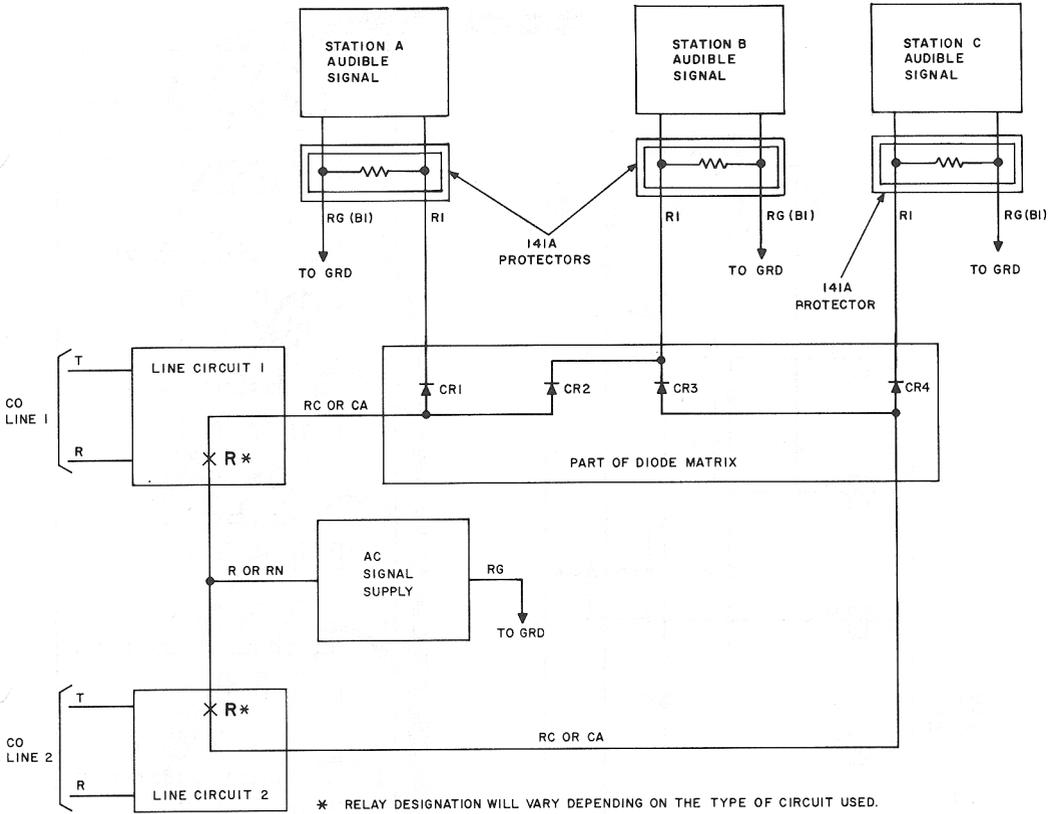

Fig. 3—Simplified Schematic of Two Lines and Three Audible Signals
- 2.05** A simplified schematic of a two line, three-station common audible signaling arrangement is shown in Fig. 3. A call on line 1 results in a signal at stations A and B, but not C since diode CR3 blocks the path. A call on line 2 results in a signal at stations B and C, but not A due to diode CR2. Station B is common to lines 1 and 2. Stations A and B are common to line 1. Stations B and C are common to line 2.